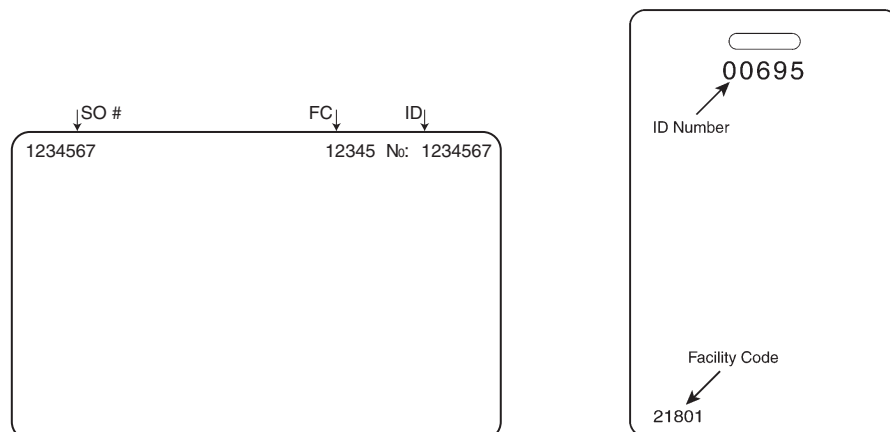

FIGURE 1
**Note that it is not generally recommended to combine sets of cards with different facility codes, because the unit cannot distinguish between access cards having different facility codes and the same ID number. It is also important to distinguish between ID numbers and the facility code when programming. See Figure 1 for examples of the numbering location.**